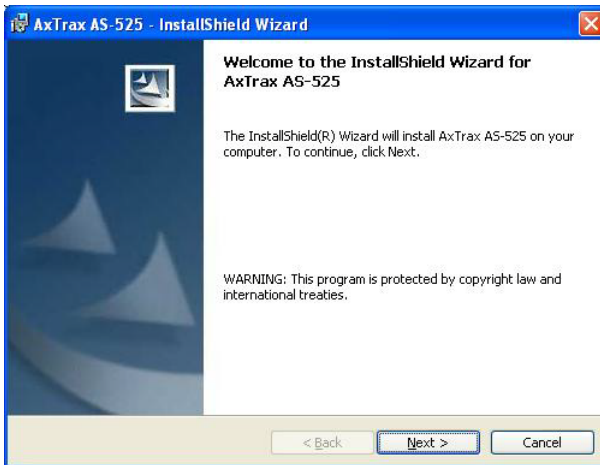

Figure 3: Welcome to the Install Shield Wizard window
1. Wait while AxTrax AS-525 prepares to install. The Welcome to the Install Shield Wizard window opens (see Figure 3).